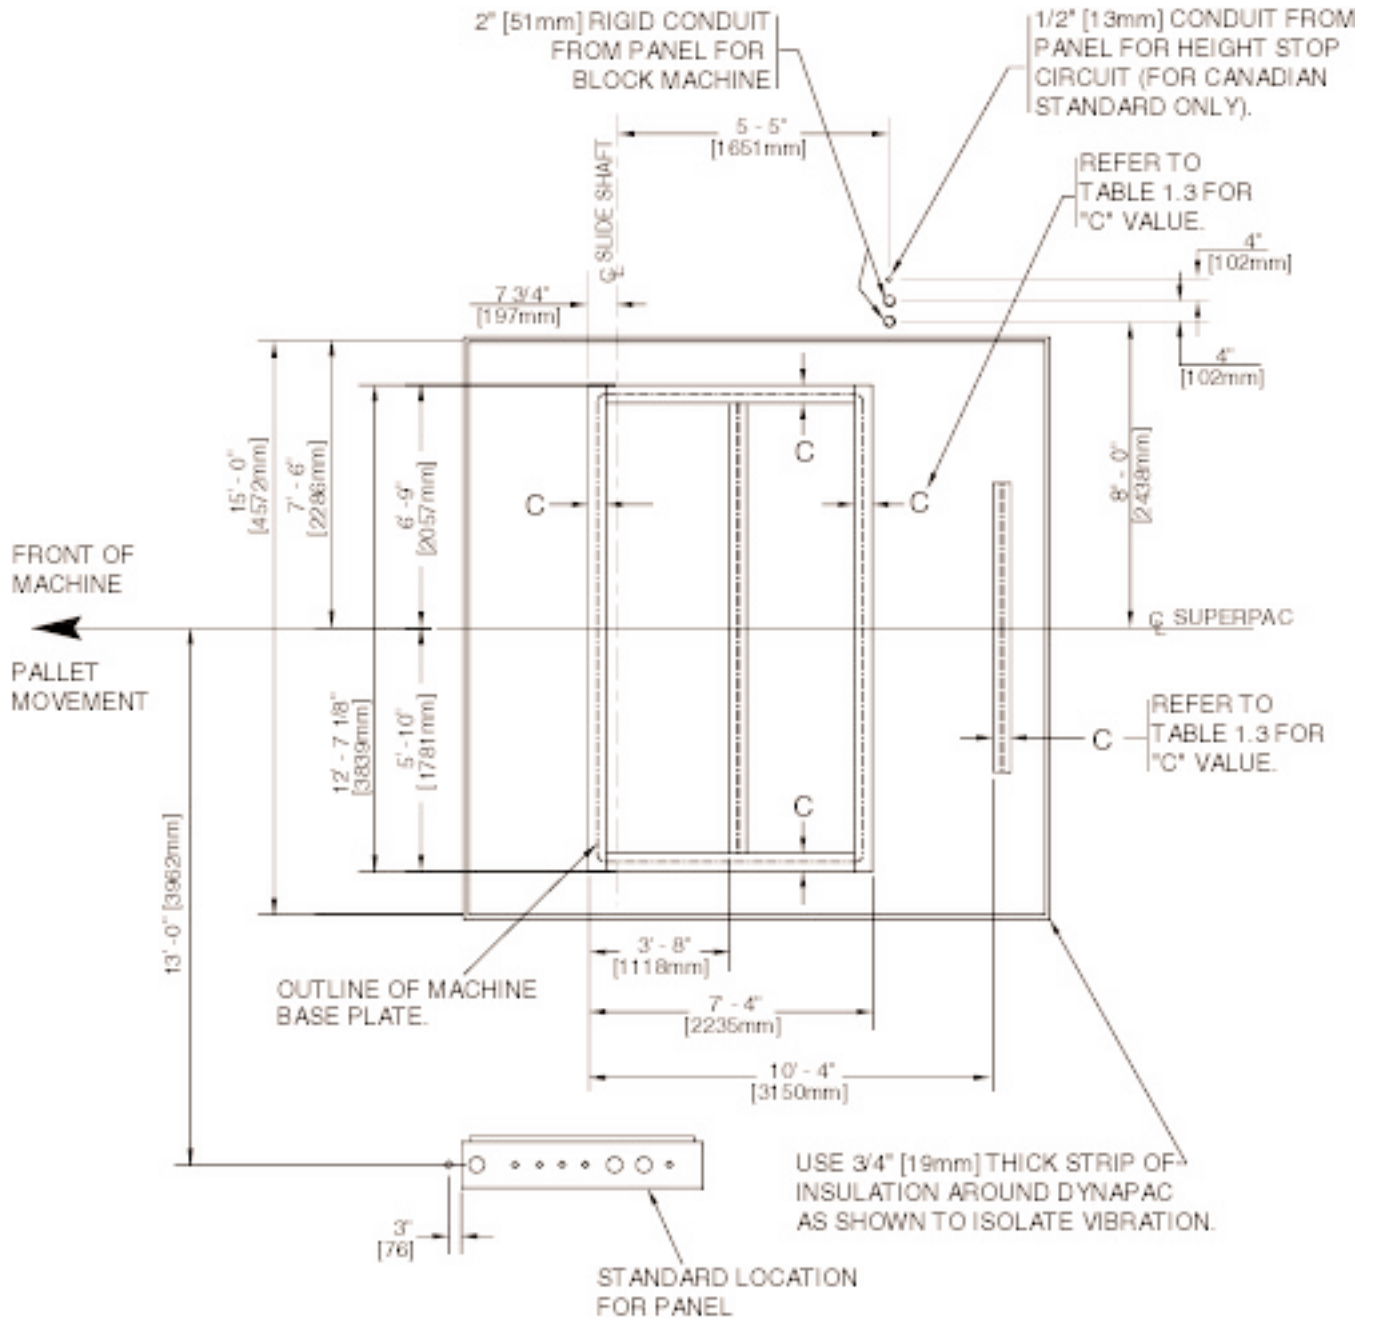

Figure 1.4 TOP VIEW.
9. The electrical panel can be installed on any side of the machine but is usually installed on the opposite side of unloader (see figure 1.4). It can also be installed in any location to accommodate specific plant layout.
10. Conduits for electrical panel can be installed as shown on figures 1.4 and 1.5.